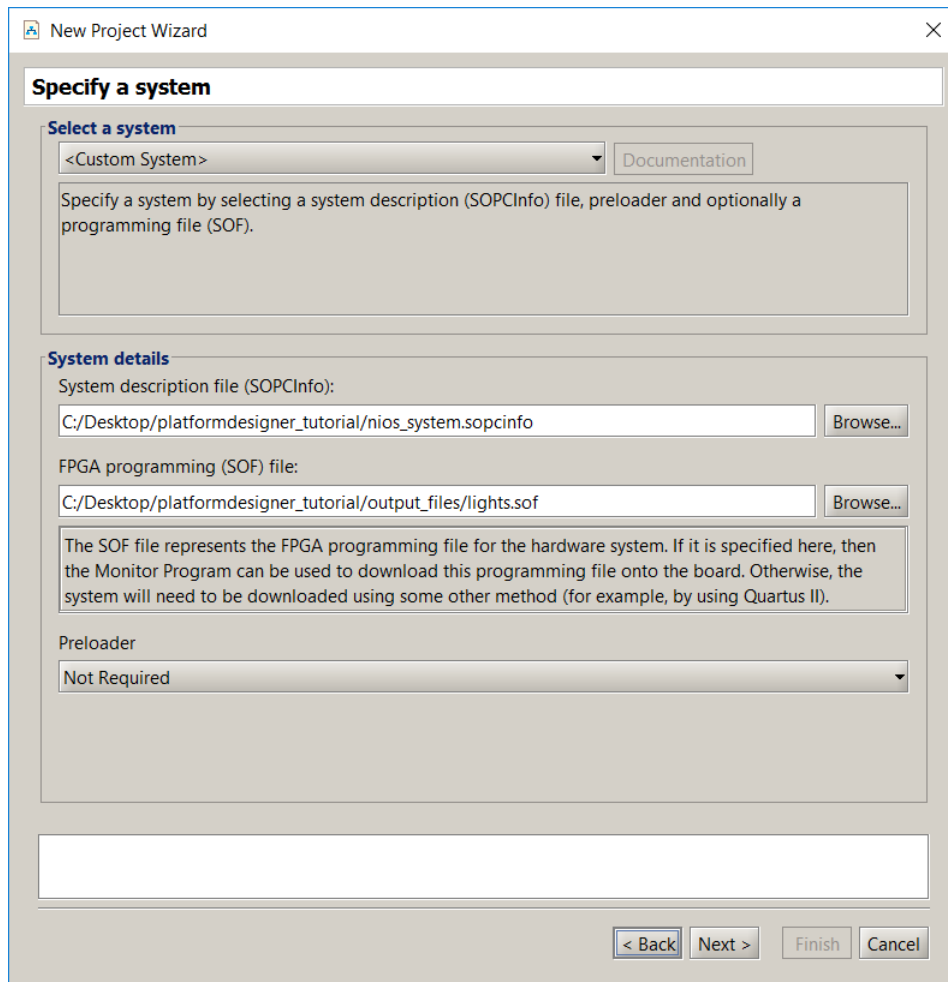

Figure 27. The System Specification window.
3. Select Nios II as the Architecture and click Next, leading to Figure 27.